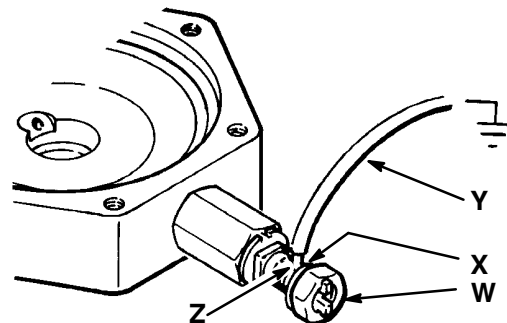

Fig. 5
1. *Pump:* connect a ground wire and clamp (supplied) to a true earth ground. **To ground the pump**, loosen the grounding lug locknut (W) and washer (X). Insert one end of a 12 ga (1.5 mm2) minimum ground wire (Y) into the slot in lug (Z) and tighten the locknut securely. See Fig. 5. Connect the other end of the wire to a true earth ground. Refer to the **Accessories** on page 18 to order a ground wire and clamp.